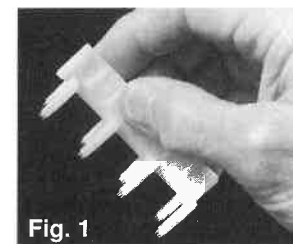

Fig. 1
1. The sterile disposable applicator. See Figure 1.